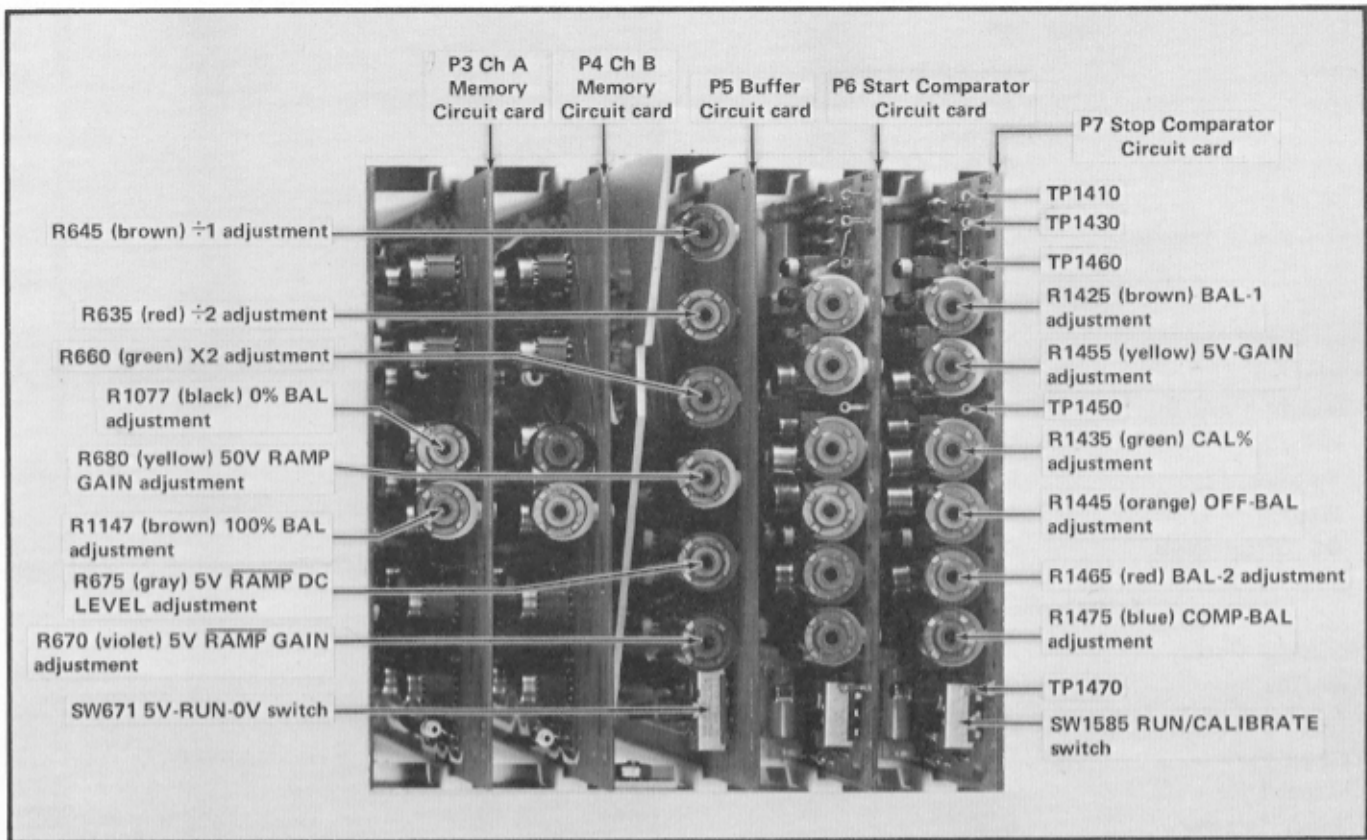

Fig. 7-5. Adjustment and test point locations for steps 11 through 27.
- h. Connect the differential voltmeter between test points 1410 and 1460 on the Start Comparator circuit card (Fig. 7-5).
- j. ADJUST—R1077 (black), 0% Balance adjustment on the Ch A Memory circuit card for a meter reading of 0.000 volt (Fig. 7-5).
- a. Move the negative lead of the voltmeter from test point 1460 to test point 1430 (Fig. 7-5).
- j. ADJUST—R1445 (orange), Off Bal adjustment (located on the Start Comparator circuit card, Fig. 7-5) for a centered trace on the test oscilloscope display. Wait for 1 minute, then readjust if drift has occurred.
- Connect the differential voltmeter between test points 1450 (positive lead) and 1460 (negative lead) on the Start Comparator circuit card (see Fig. 7-5).
- ADJUST—R1425 (brown), Bal 1 adjustment on the Start Comparator circuit card (Fig. 7-5) for a meter reading of 0.000 volt.
- Move the positive lead of the differential voltmeter from test point 1450 to test point 1470 (see Fig. 7-5).
- ADJUST—R1465 (red), Bal 2 adjustment on the Start Comparator circuit card (Fig. 7-5) for a meter reading of 0.000 volt.
- ADJUST—R1475 (blue), Comp Bal adjustment on the Start Comparator circuit card (Fig. 7-5) so that the maximum intensity portion of the noise display is at the center of the display excursion.
- Set the Run/Calibrate switch (see Fig. 7-5) to the Calibrate position.
- ADJUST—R1455 (yellow), 5 V gain adjustment (Fig. 7-5) for a meter reading of +5.000 volts.
- ADJUST—R1465 (red), Bal 2 adjustment (Fig. 7-5), for one-half the error from 5.000 volts if the voltage does not meet the ± 2 mV tolerance.